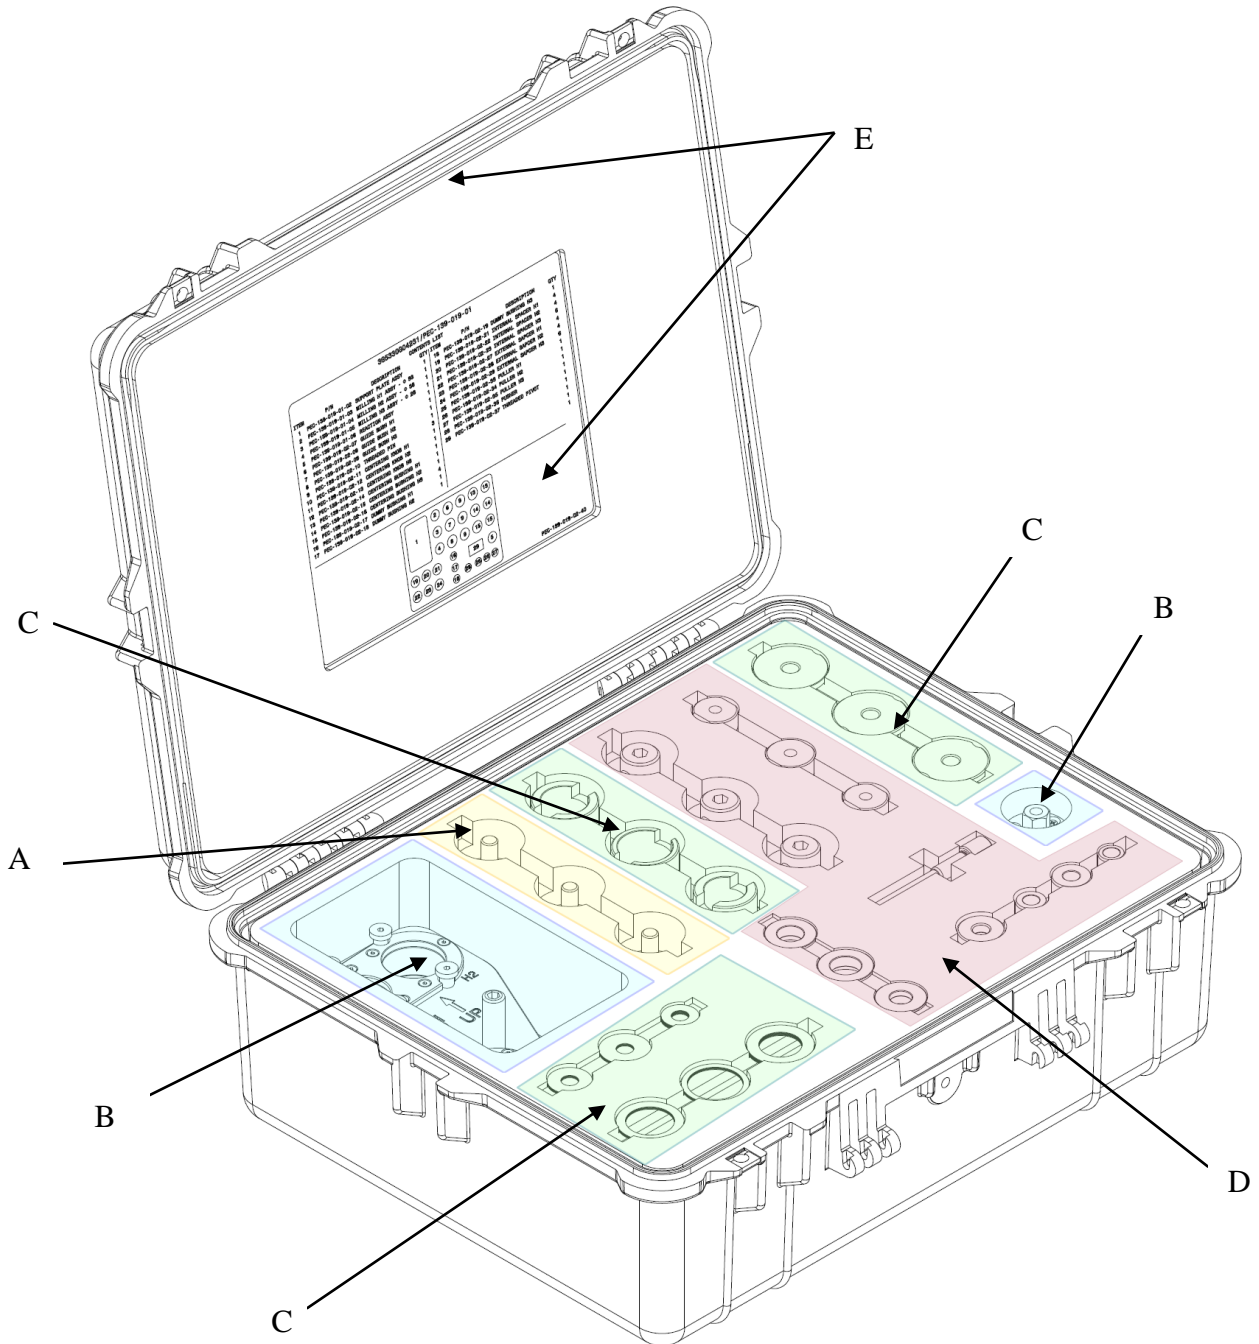

Figure 17: OVERALL VISUAL EXAMINATION
A. Examine all parts for any of the visible damage that follows (fig. 17):